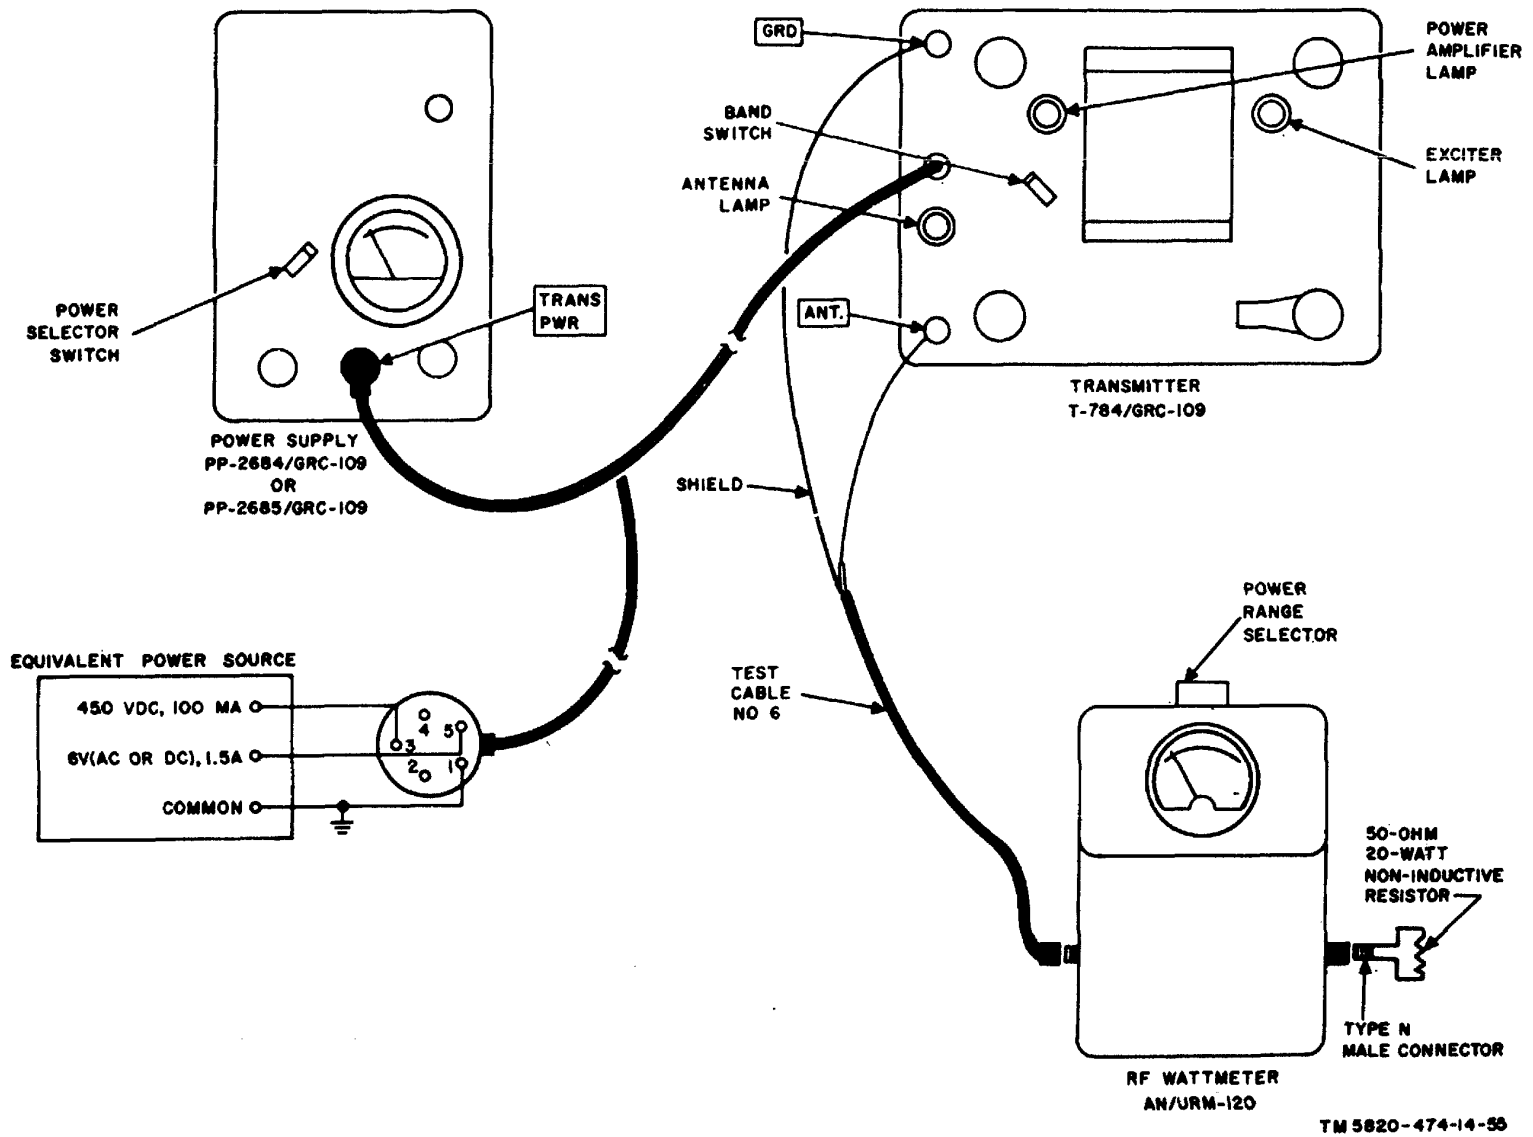

Figure 55. Transmitter power output test.
b. Test Connections and Conditions. Connect the equipment as shown in figure 55. Turn on the equipment and allow 15 minutes to warm up before proceeding.